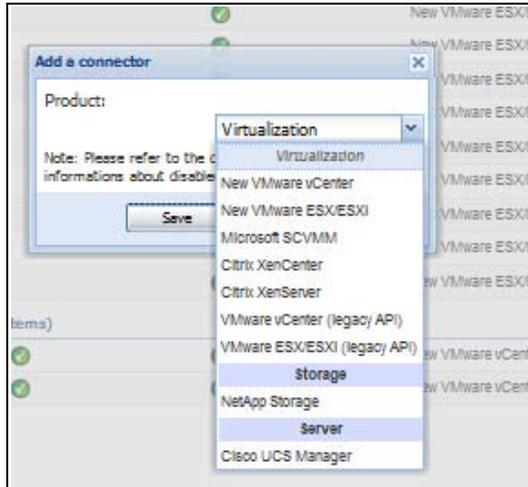

Figure 91. Add a Connector Product Selection Dialog
1. From the Add a Connector dialog, select New VMware vCenter from the Product drop-down list (see Figure 91). A second Add a connector dialog displays for your product connector selection.